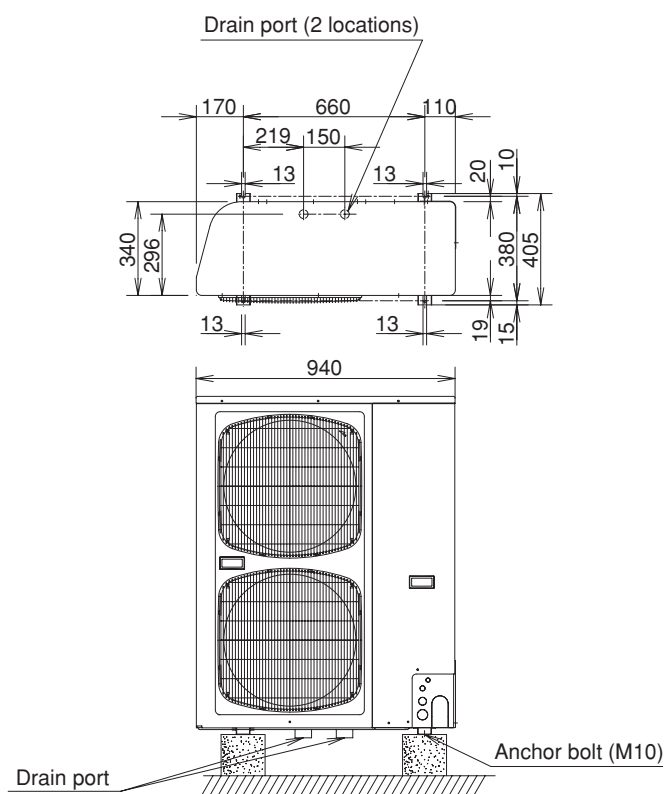

Fig. 4-1
- Refer to the Fig. 4-1 for the anchor bolt dimensions.